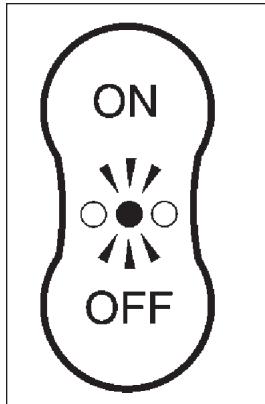

Figure 7:
- 9) To check the low airflow/high particle load alarm, you will simulate a low airflow condition as follows: With the Adflo® unit turned on, tightly cover the end of the breathing tube with the palm of your clean hand; the motor will then automatically speed up, attempting to compensate for the low airflow condition. Continue to press your palm tightly against the end of the breathing tube, making a tight seal. When you have achieved a tight seal, the unit will sound an audible alarm and the center, red LED on the on/off switch will flash (see Figure 7).